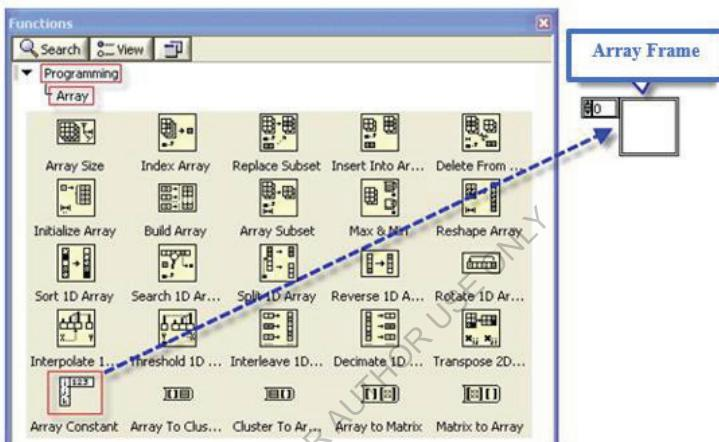

Figure 2.192: Create an array of Constants in Block Diagram
- 1- We include the Array Constant frame from **Function Palette >> Programming >> Array**, as shown in figure 2.192.